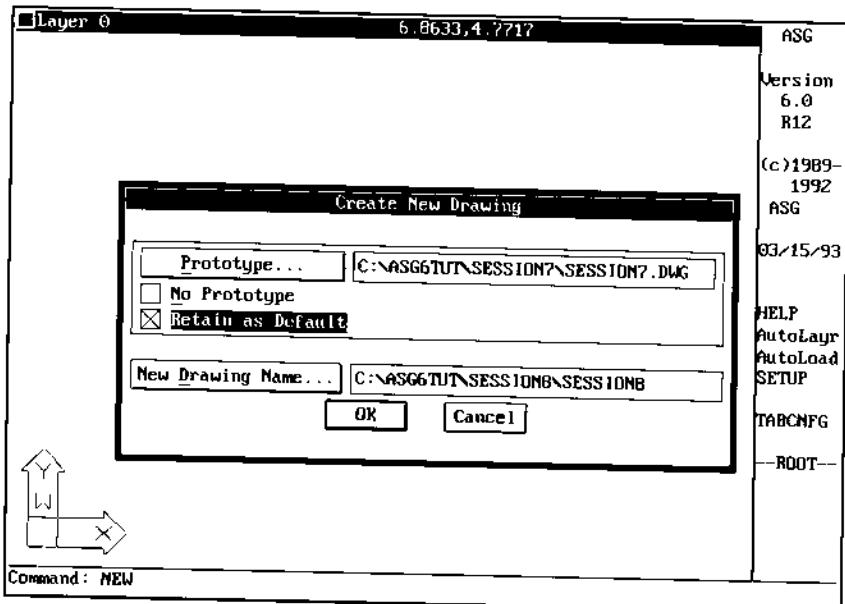

Figure 1.
4. Select the completed drawing from Session 7 in the C:\ASG6TUT\SESSION7 directory as shown in Figure 1 to use as the prototype drawing for Session 8.
5. Enter the drawing path and name C:\ASGTUT\SESSION8\SESSION8, as shown in Figure 1.